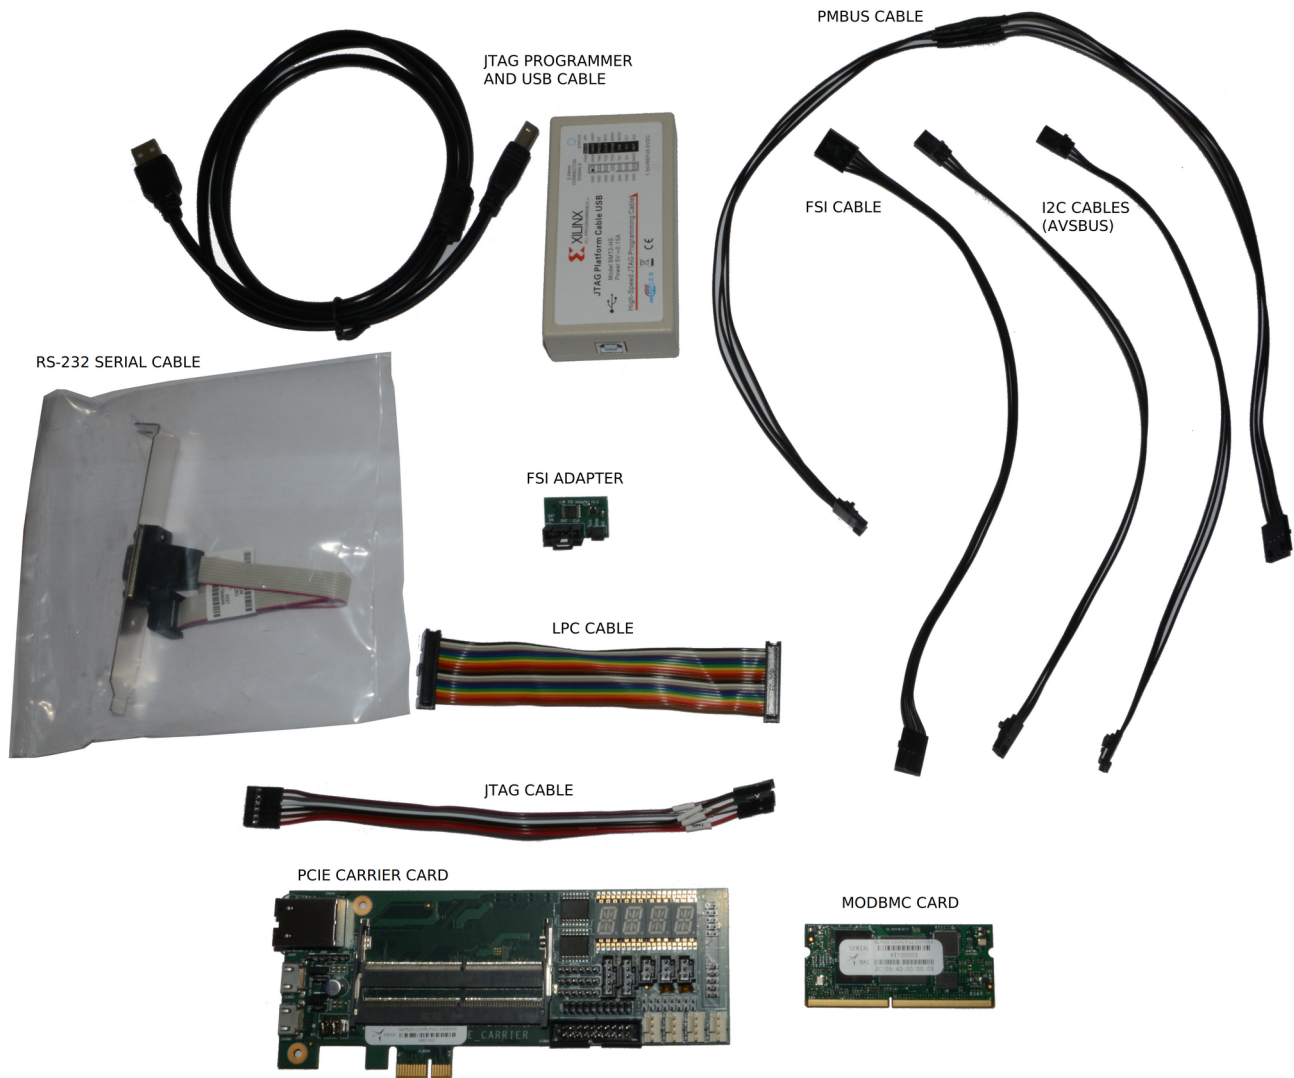

Figure 1: BMC Development Kit Contents
This guide will assume you either have a Raptor Computing Systems Arctic Tern BMC Development Kit or compatible set of components available. Please see Figure 1 for the kit contents. You will also need a standard serial cable and, if your PC does not have an on-board RS-232 serial port, a USB to RS-232 serial converter will be required.
- Install the Arctic Tern BMC card into the lowest PCIe slot in the system, as shown in Figure 1. This location is important; the LPC bus signal integrity is length sensitive, therefore it is critical to place the BMC card as close as possible to the TPM header on the Talos II host system. If a PCIe slot is not being used, place the card as close as practical to the TPM header on the Talos II host system and use the shortest possible LPC bus cable.